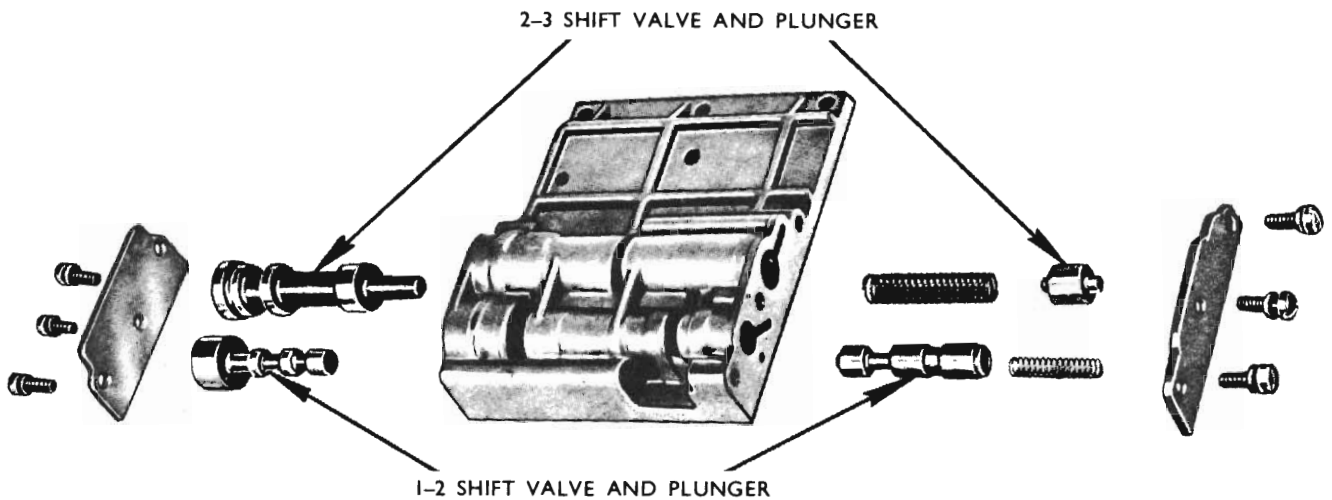

Fig. 35 - Upper valve body (disassembled view)
**Lower Body (Refer Fig. 35)**
(5) Withdraw the manual control valve from lower body, note that the double collars protrude to engage the detent lever.
(6) Remove the kickdown and throttle valve spring and stop (if not previously removed) with kickdown valve. Note that the throttle valve large land is toward the kickdown valve.
(7) Remove the modulator valve assembly retaining dowel pin, retainer, modulator valve and plug (large land outermost) and spring.
(8) Remove the servo orifice control valve retainer (stop), spring and servo orifice control valve (large land outermost).
(9) Remove 3 screws ( $9/16$ " long) and lock washers retaining primary and secondary regulator valve and plate, remove the plate, both springs, primary regulator sleeve, and both regulator valves. Note that the primary regulator valve has the larger components and both valve lands are innermost when installed.
**Upper Body (Shift Valves)—Fig. 35**
(10) Remove the 3 screws retaining each shift valve assembly and plate, which are spring loaded. Remove the larger valves. (Screws  $7/16$ " long.)
(11) Next largest plunger and spring (2-3 shift valve), then the smaller spring and plunger (spring between plate and plunger) as in Fig. 35.